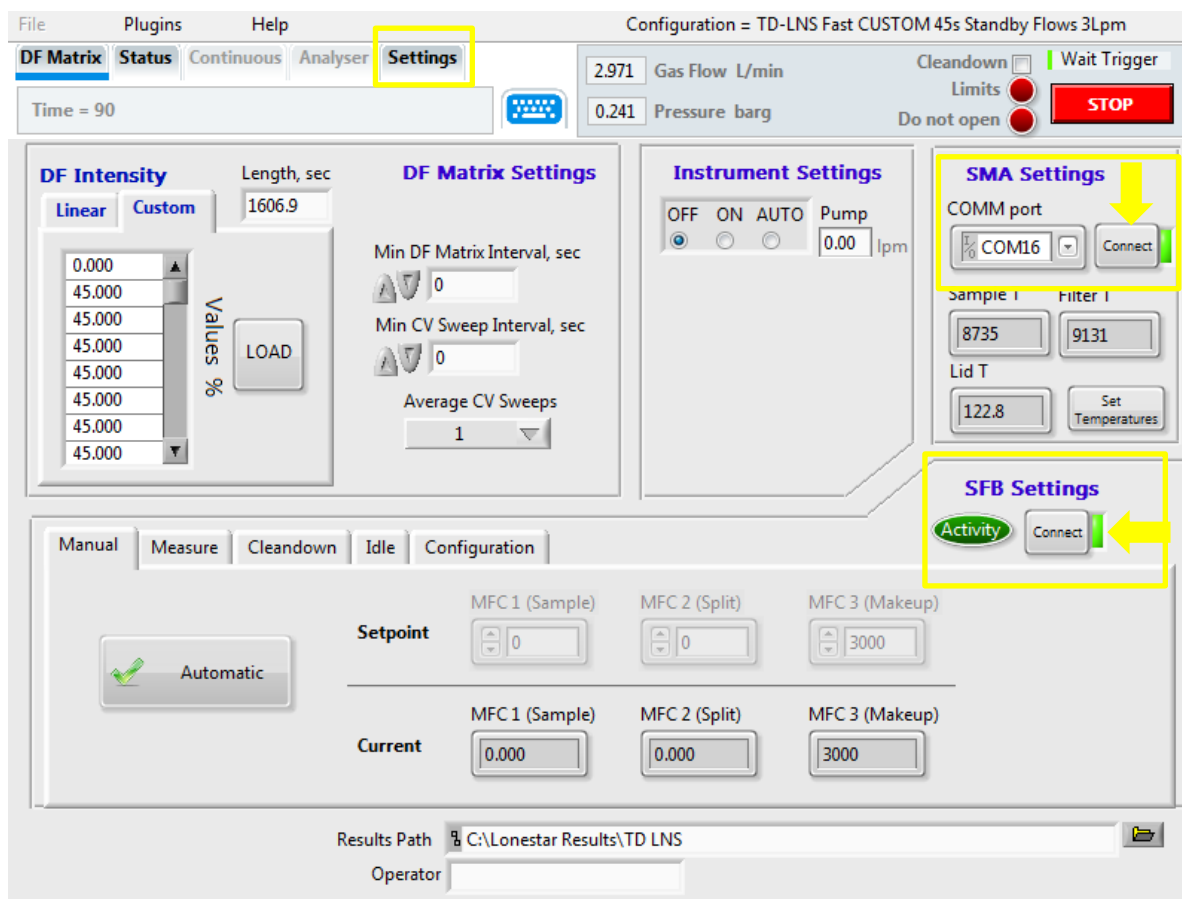

Figure 3. LNS interface screen. The yellow arrows point at the buttons that should be displaying “Connect”, press them if they are not.
- 4.1.4 If gas flow and pressure parameters are both zero, go to “Settings” and press the “COMM port” and “SFB settings” buttons, so that both display the message “Connect”, as shown in Figure 3.